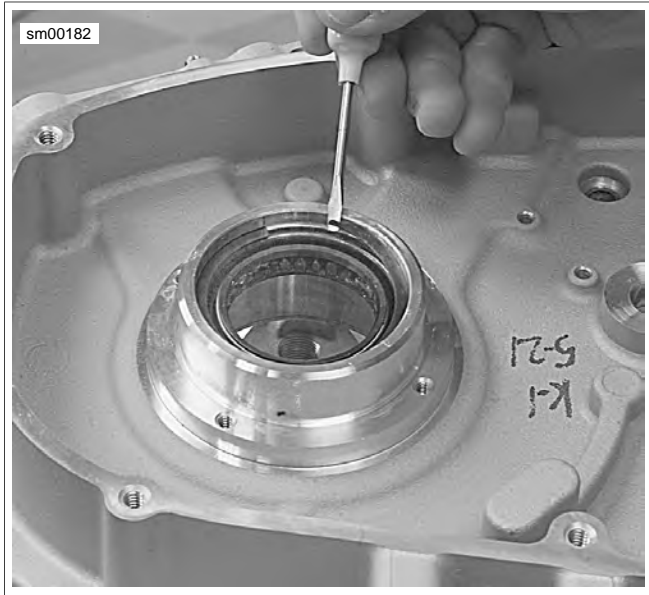

Figure 3-122. Sprocket Shaft Seal Retaining Ring
- See Figure 3-122. Remove sprocket shaft oil seal retaining ring.